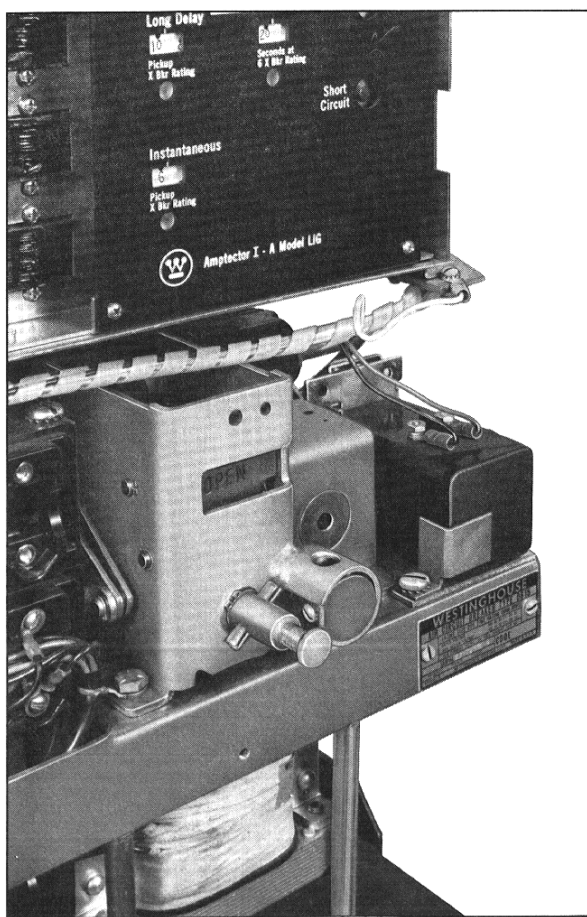

Fig. 17 Actuator Mounted on DB-15
- Using the Actuator as a template, drill and tap a .25-20 hole in the breaker platform at the left rear of the Actuator. Secure Actuator to platform using .25-20 x .5 sems screw, see Fig. 17.
5. Connect the green wire to the end of the right Amp-jector support bracket using .164-32 x .5 mach. screws, nuts and washers. This now grounds the sensor star point, see Fig. 17.